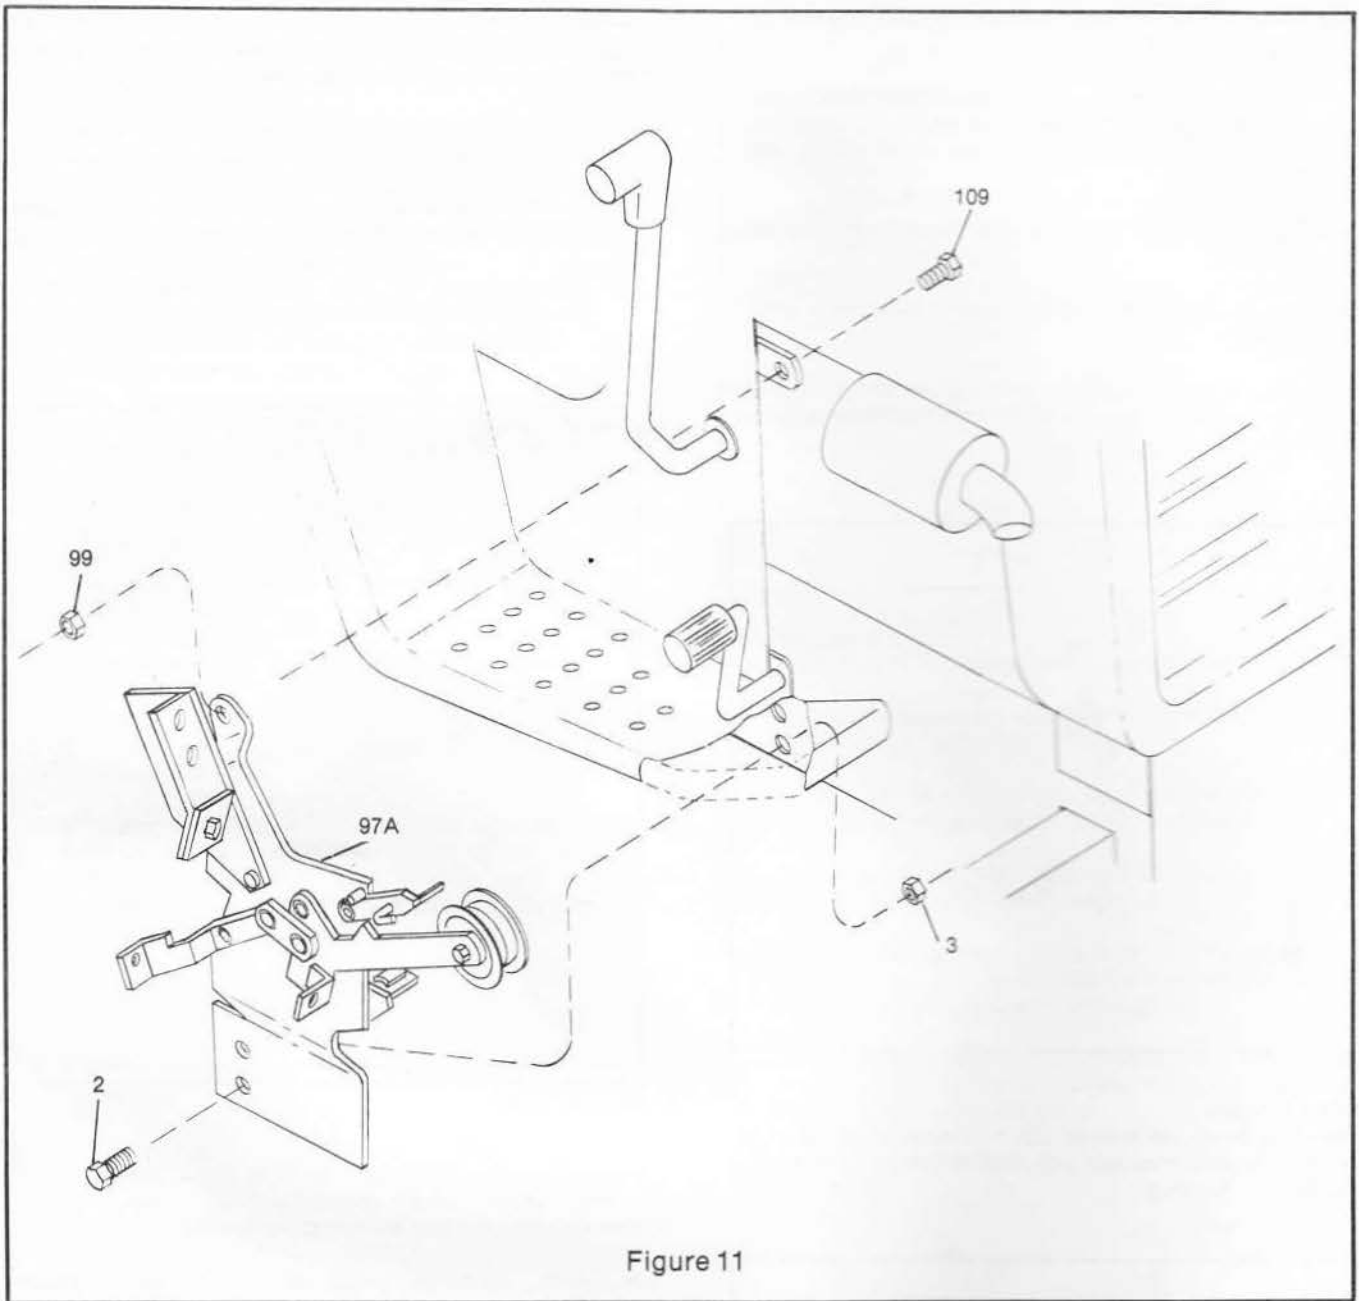

Figure 11
STEP 11 (Figure 11)
A.) Remove existing Tractor bolt, lock washer and nut, items (34, 35 & 36), See Tractor Owner's Manual Pages 14 & 15.
B.) Assemble power pack assy. (97A) to Tractor with two 3/8 hex bolts (2) two 3/8 hex lock nuts (3) at the bottom and one 1/4 hex bolt (109) one 1/4 hex lock nut (99) at the top as shown in Figure 11.